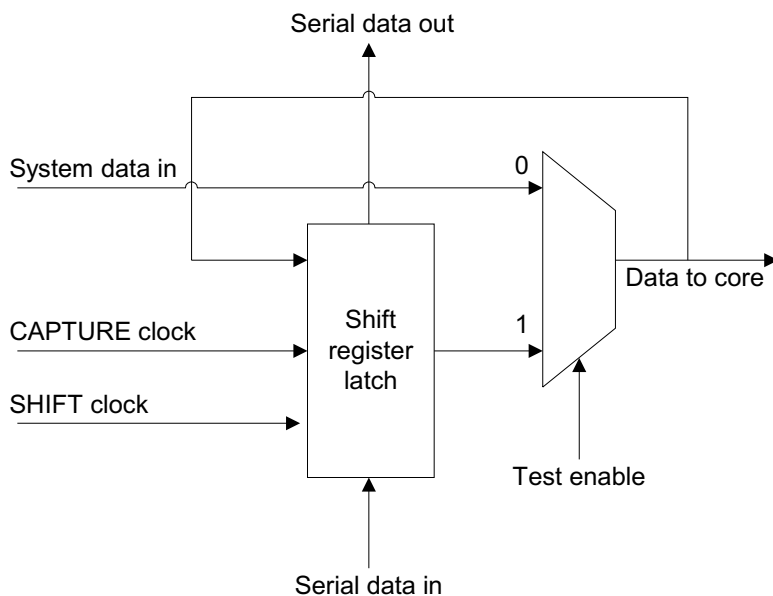

Figure 7-5 Input scan cell
- *These allow serial access to the core logic, and to EmbeddedICE Logic for programming purposes. They are described in this section and shown in Figure 7-5 on page 7-19. on page 7-18.*
These allow serial access to the core logic, and to EmbeddedICE Logic for programming purposes. They are described in this section and shown in Figure 7-5 on page 7-19.